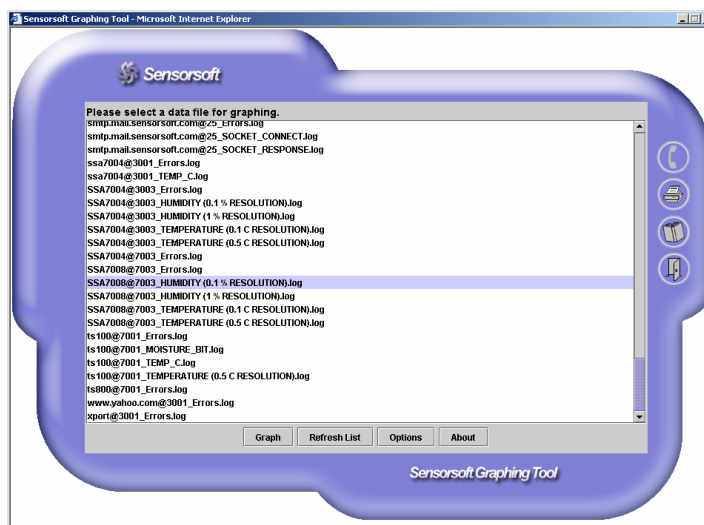

Figure 1
1. From the list of data files (see Figure 1), select the one that you would like to graph by clicking on its name. Then click the Graph button. Make sure the file that you have selected contains valid data (See *Appendix B – Sensorsoft Data Log Format*).
When SGT is launched, it displays a list of data files for the user to graph (see Figure 1). This list is obtained by reading an HTML file that contains links to data files and extracting the file names and URLs. This HTML file can be specified in the Options dialog. If your SGT is integrated into RWME, then the HTML file is set to RWME1000041.html, and you should never change it. Similarly, SGT is integrated into the Sensorsoft Alert (SSA) unit and the HTML file is set to read /logs.asp. This URL should never be changed. If you are running SGT from a different web server, then it will be necessary to specify the HTML file. For example, there may be several HTML files that contain links to different data files that you wish to graph, and the only way SGT can find these HTML files is for you to specify them. Keep in mind that the HTML file you